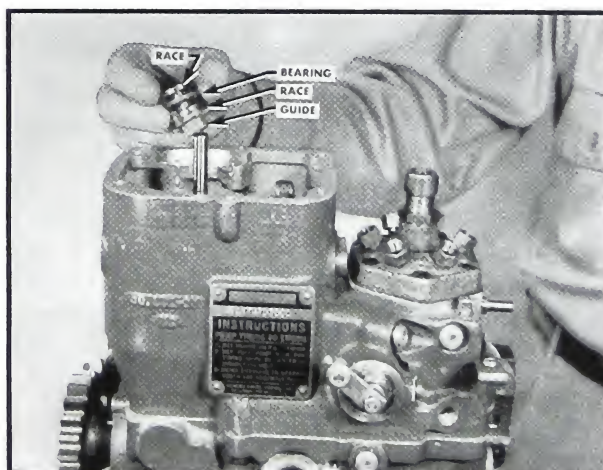

Fig. 5-346. Assemble thrust bearing and sleeve guide
1. Assemble the thrust bearing to the sleeve guide. The bottom race is a finger press fit while the top race fits loosely. The open face of the cage fits down against the bottom race. Fig. 5-346.